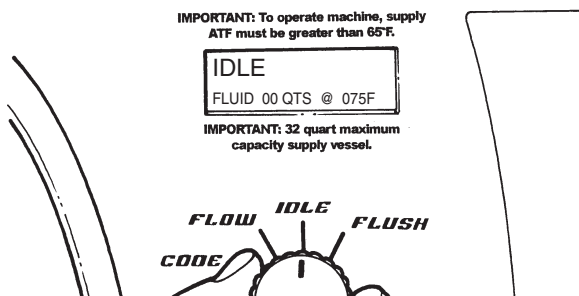

Figure 1
3. Place the main function switch in the IDLE position. See Figure 1.